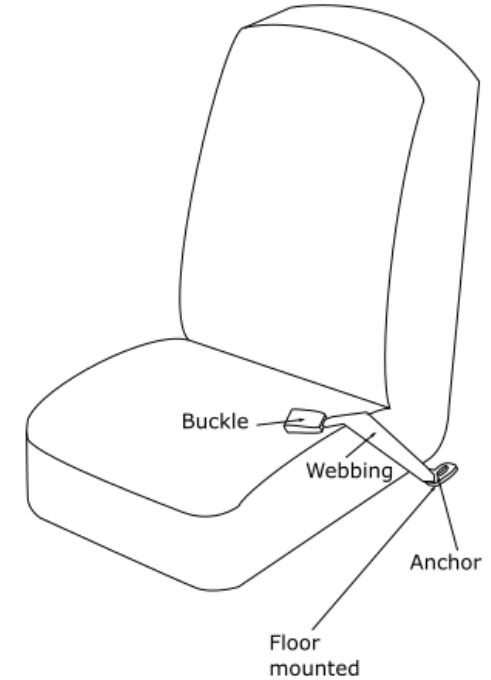

Figure 2.3 Webbing Buckle Floor Mounted
- Figure 2.3 shows a floor mounted webbing buckle. It is usually floor mounted. The drawing shows a single seat, but it is normally mounted in a bench seat.